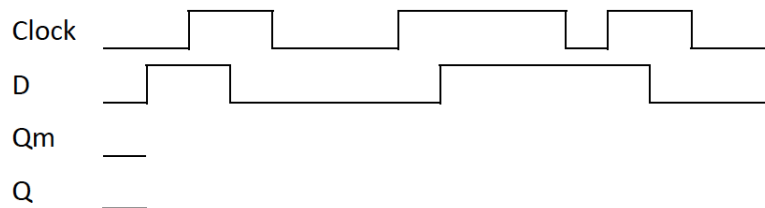

Fig.6: Time diagram for Master-Slave Flip-Flop.
4. Draw **Qm** and **Q** signals on the given time diagram in Fig. 6, and add it to your report.